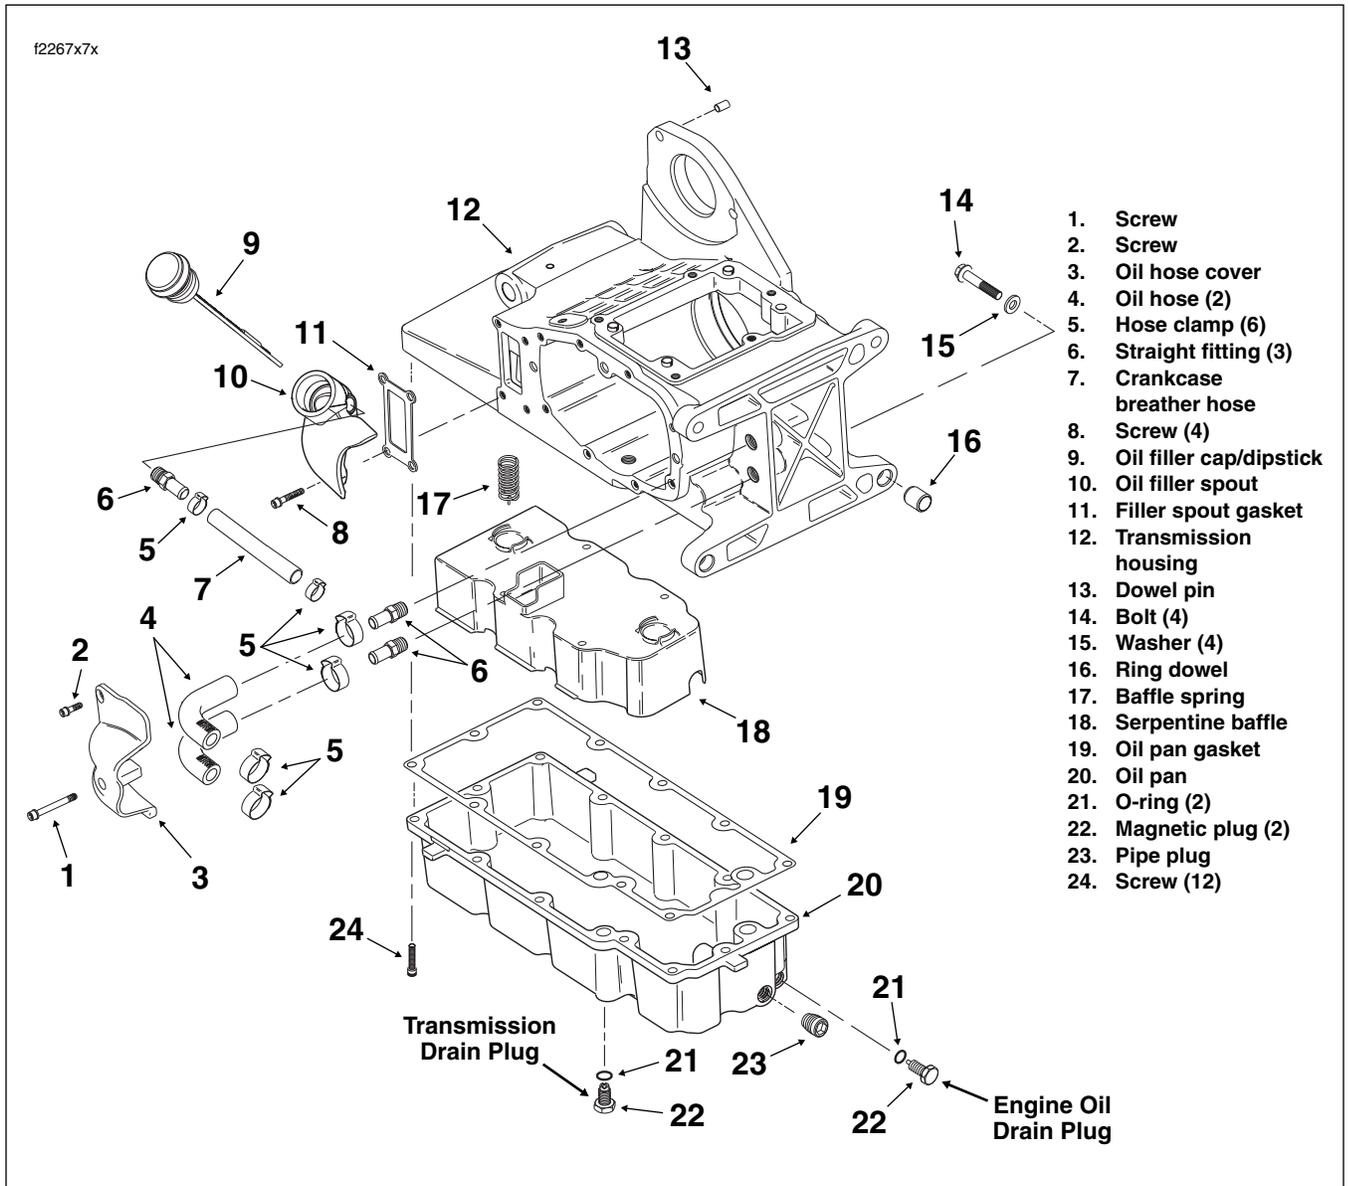

Figure 7-49. Transmission Case and Oil Pan
1. See Figure 7-49. Remove both the engine oil and transmission lubricant drain plugs from the oil pan. Drain the fluids into suitable containers.
- Remove two allen head socket screws to release oil hose cover. See Figure 7-49.
3. Slide **new** clamps onto free ends of oil supply and return hoses. See Figure 7-49. Install hoses onto transmission fittings. Crimp clamps using the Hose Clamp Pliers (HD-41137).